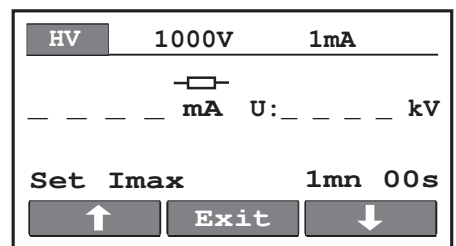

Fig.6. Menu for selection of tripping out current
- Tripping out current (fig. 6)